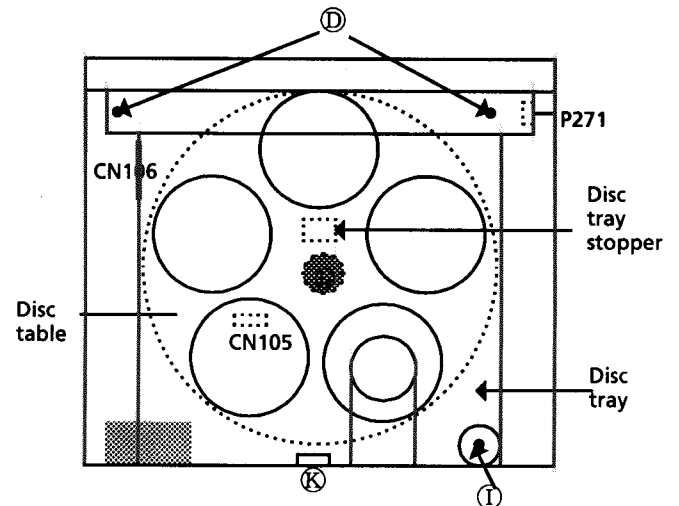

Fig 2 Top view (without the top cover)
2. Disconnect the wires CN106 and P271(Fig 2).
5. Remove the screw ⑨(Fig. 2).
6. Disconnect CN105(Fig. 2).
7. Slide the disc tray backward slightly. And, move the tray forward while lifting up ⑩ to remove the disc tray from the stopper.(Fig. 2)
- (1) The level of RF output (EFM output: amplitude of eye pattern) will be low.
- (2) The drive current required by the laser diode will be increased. In such a case, check the life of the laser diode following the flowchart below.
(3) Measurement of laser diode drive current (Fig.2)
(Fig.2)